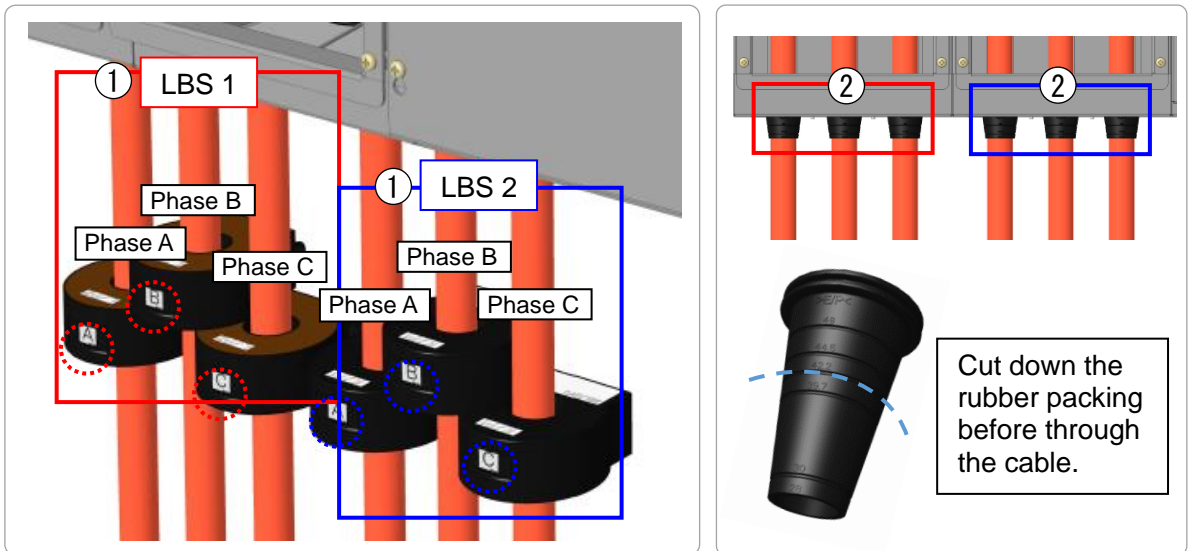

Figure 13. Installation of the CT to the cables      Figure 14. Preparation of rubber packing
- ① Pass the cable through each CT according to the phase indication on the CT. [Figure. 13]